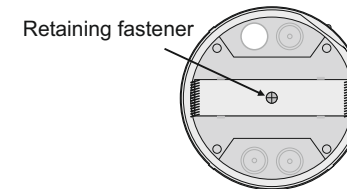

Figure 5
**Step 2.** Unfasten the retaining screw (Figure 5) and detach the part for suspended ceiling installation.